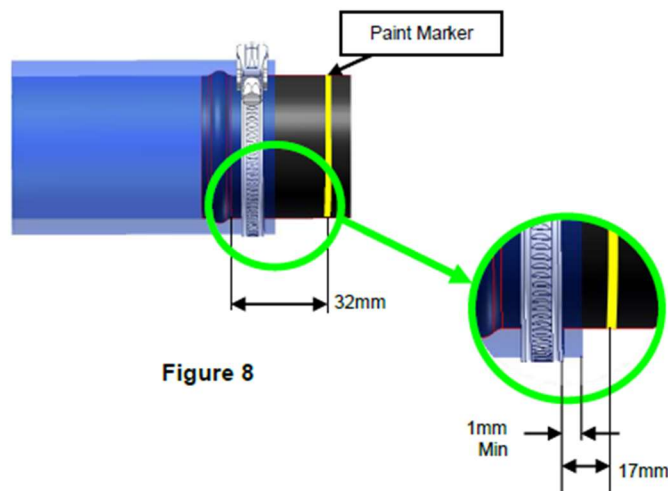

Figure 8
4.7.3 Single clamp Installation: If silicone Hose is short from the 17mm clamp position marker ensures to respect the 1mm minimum excess of silicone hose when clamp is tightened. (Figure 8)